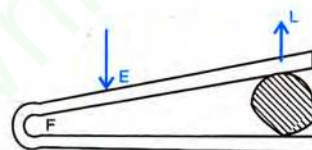

Fig. 3.10 Coal tongs.
- (a) Fig. 3.10 shows a fire tongs in which the effort E is in between the load L and fulcrum F . This belongs to class III type of levers.